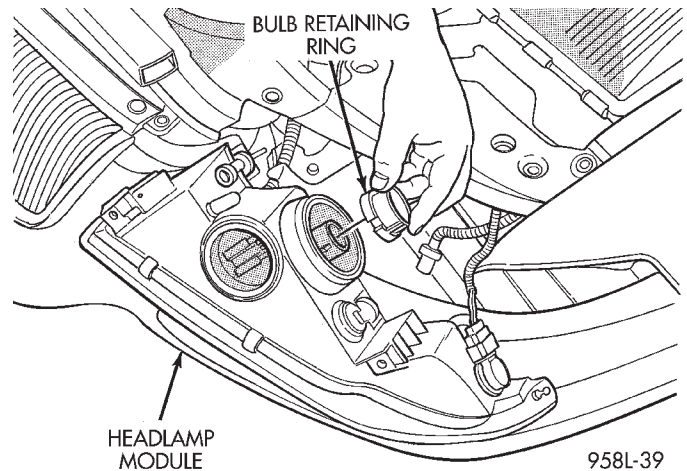
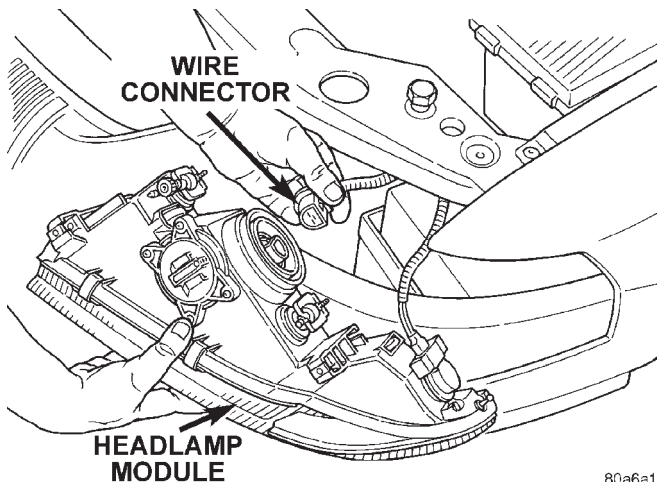

Fig. 2 Headlamp Bulb Retaining Ring
Fig. 1 Headlamp Connector
- (1) Release hood latch and open hood.
- (2) Remove screws holding headlamp module to radiator closure panel.
- (3) Remove headlamp module from radiator closure panel.
- (4) Disconnect wire connector from back of headlamp bulb (Fig. 1).
- (5) Rotate retaining ring counterclockwise one quarter turn.
- (6) Remove retaining ring from headlamp module (Fig. 2).